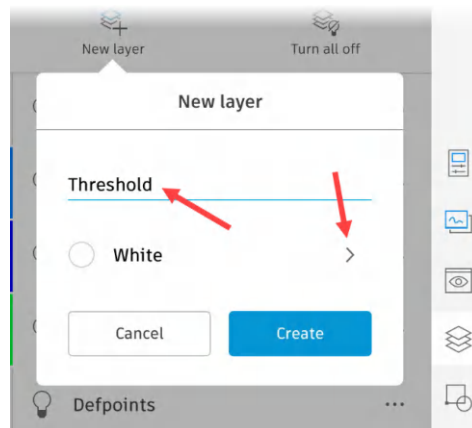

Figure 15.23: Naming the Threshold layer in the Layers panel
4. Give the new layer the name **Threshold**, as shown in *Figure 15.23*.